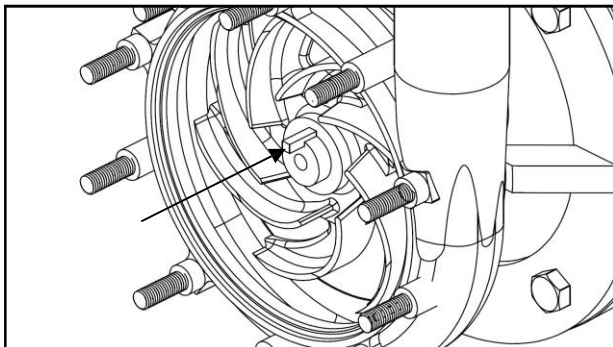

Figure 19
10. Once the seal and impeller are on, insert the key into the keyway of the motor shaft and impeller, Figure 19.